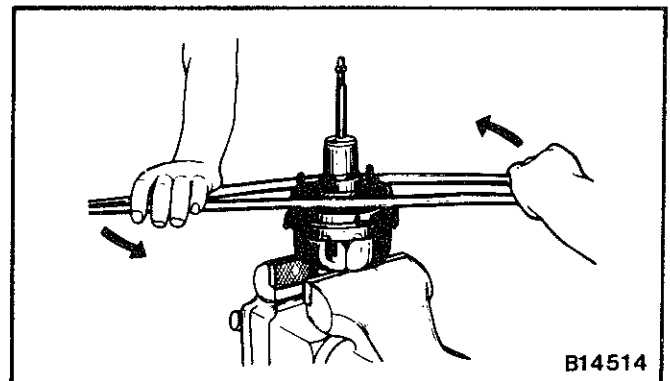

Fig. 4—Separating booster
- (1) Secure the front shell flange in a vice.
- (2) Remove the yoke and lock nut.
- (3) Scribe mating marks on the front and rear shells, this will assist in reassembly.
- (4) Holding the neck of the rear shell from both sides with pipes, remove the rear shell by turning it anti-clockwise. The diaphragm spring can be removed at the same time (Fig. 4).
- (5) Remove the diaphragm plate from the rear shell.